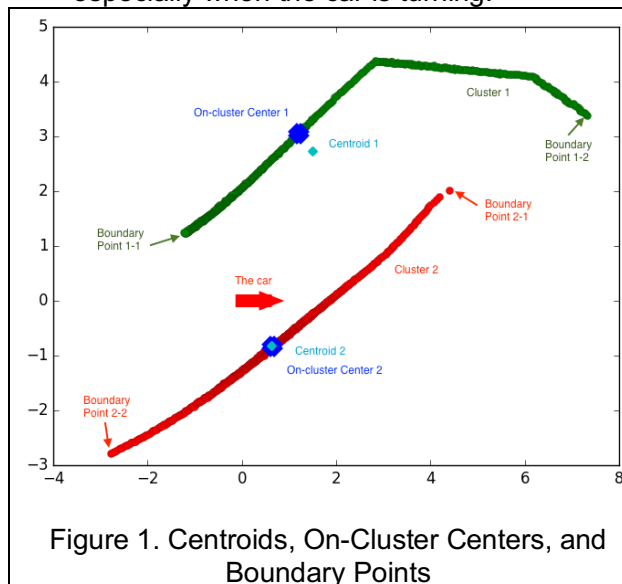
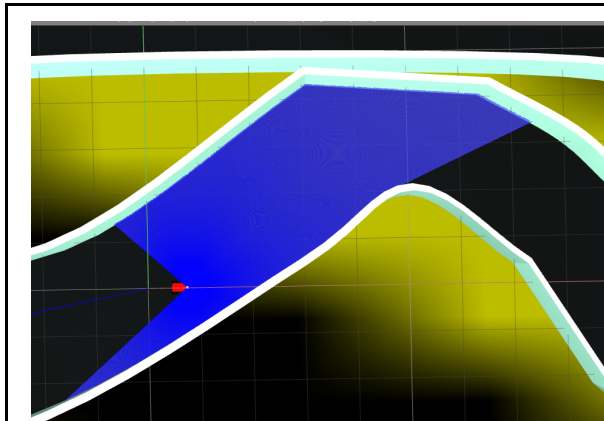
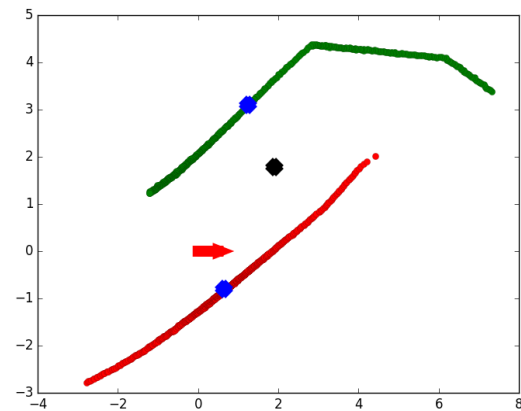

Figure 1. Centroids, On-Cluster Centers, and Boundary Points
Figure 3. Gazebo simulator
Figure 4. Matplotlib plot
3. Using the clustering labels returned in part 2, find the on-cluster central points of each cluster & the boundaries of each in-range obstacle (Figure 1). Notice that we've used a distance threshold (OAT, Obstacle Avoidance Threshold) to filter out the possible noise involved in data points too far away, especially when the car is turning.
Using Gazebo simulator (Figure 3) and matplotlib (Figure 4), we can see that at this turn shown in Figure 1, we've managed to:
*Notice that in Figure 3, the car is represented as the red arrow pointing towards the right.